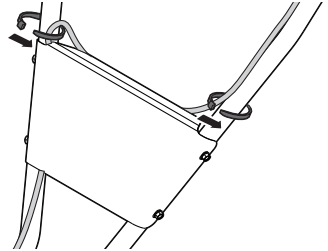

Figure 9
- Route the wire over the upper handle, then behind the handle panel, securing it to the right side of the handlebar with the clutch cables at the upper corner of the panel. See Figure 9.